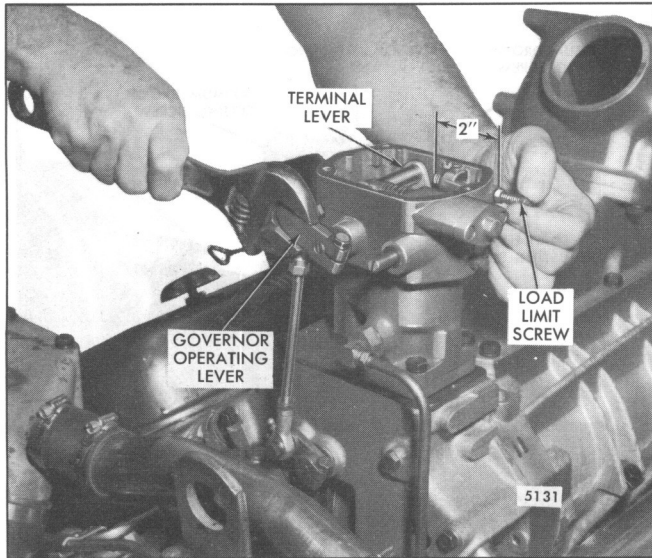

Fig. 6 – Adjusting Load Limit Screw
18. With the load limit screw backed all the way out, retain the governor operating lever in the *full-fuel* position. The governor terminal lever should touch the boss in the governor housing (Fig. 6). Adjust the vertical link so that all of the injector racks are in the *full-fuel* position, then tighten the rod end lock nuts securely.
1. Loosen the load limit screw locknut and adjust the load limit screw to obtain a distance of approximately 2" from the outside face of the boss on the governor subcap to the end of the screw. Then, place and retain the governor operating lever in the *full-fuel* position (Fig. 6). Do not overstress the linkage.